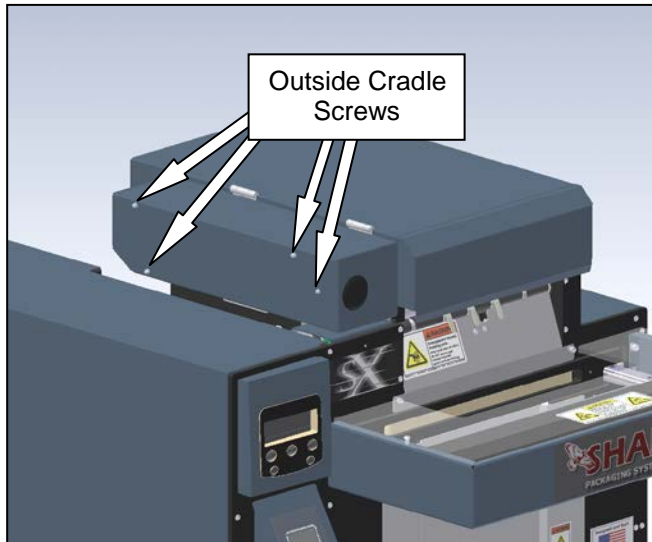

Figure 3-255. Removing the Outside Cradle Cover
1. Open the cradle, and remove the outside cradle cover. (Figure 3-255).